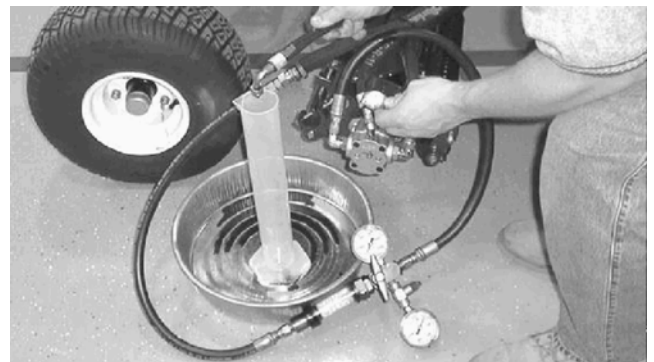

Figure 41
NOTE: Use a graduated container, special tool TOR4077, to measure case drain leakage (Fig. 41).
6. Have a second person collect the flow from the case drain line for **15 seconds**, then move the PTO switch to OFF and stop the engine (Fig. 41). Record test results.